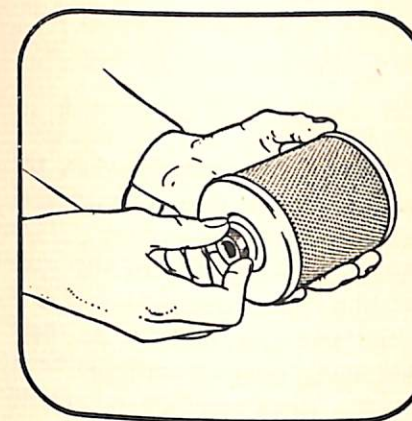

FIG. 67.
- (c) Unscrew knurled nut from centre support (see fig. 67).